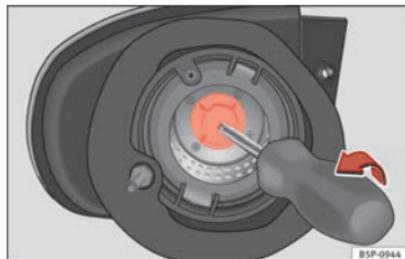

Fig. 193 Turn signal light.
- Pull out the turn signal bulb holder using a screw driver in the direction of the arrow ⇒ Fig. 193.